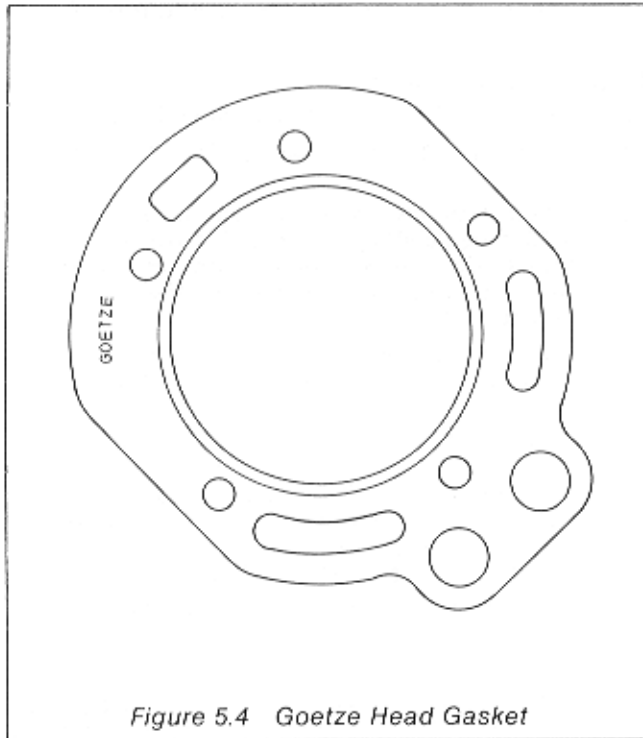

Figure 5.4 Goetze Head Gasket
- (2) **Goetze Head Gasket** (Figure 5.4). Brown in colour with the word Goetze stamped on the upper face adjacent to a stud hole.